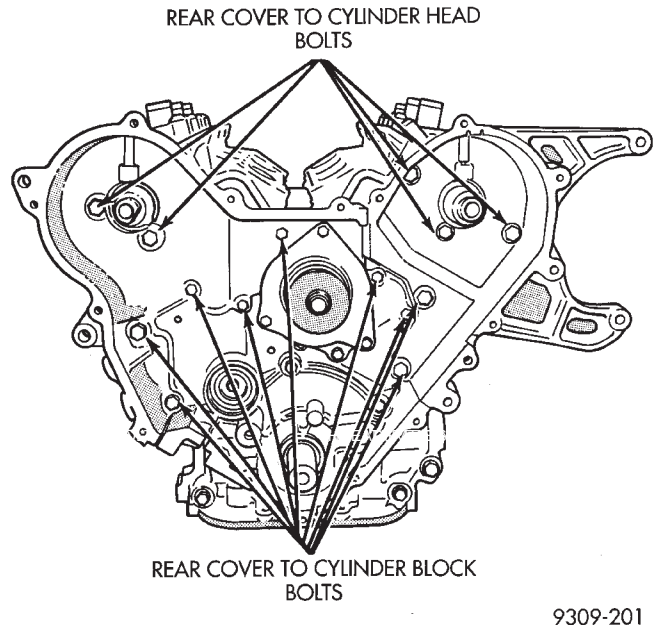

Fig. 36 Rear Timing Belt Cover Attaching Bolts
- (1) Remove crankshaft damper.
- (2) Remove timing belt covers.
- (3) Remove camshaft sprockets. Refer to Camshaft Sprocket and Engine Timing Procedure in this section.
- (4) Remove intake manifold assembly. Refer to Group 11, Intake and Exhaust Manifolds, for procedure.
- (5) Remove rear timing belt cover to cylinder head fasteners (Fig. 36). Remove the rear covers.